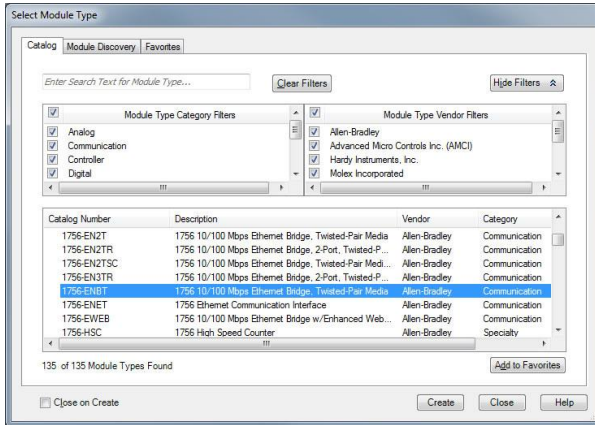

Figure 25: Adding a New Module
- 5) Select the "1756-ENBT/A", and click "Create". Refer to Figure 25.